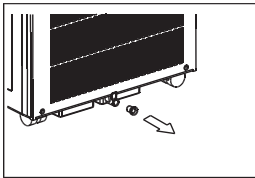

Fig.25
- When the water level of the bottom tray reaches a predetermined level, the unit beeps 8 times, the digital display area shows "P1." At this time the air conditioning/dehumidification process will immediately stop. However, the fan motor will continue to operate (this is normal). Carefully move the unit to a drain location, remove the bottom drain plug and let the water drain away (Fig. 25). Restart the machine until the "P1" symbol disappears. If the error repeats, call for service.
- Remove the plug from the bottom drain outlet, all the water in the bottom tray will drain out (See Fig.25).